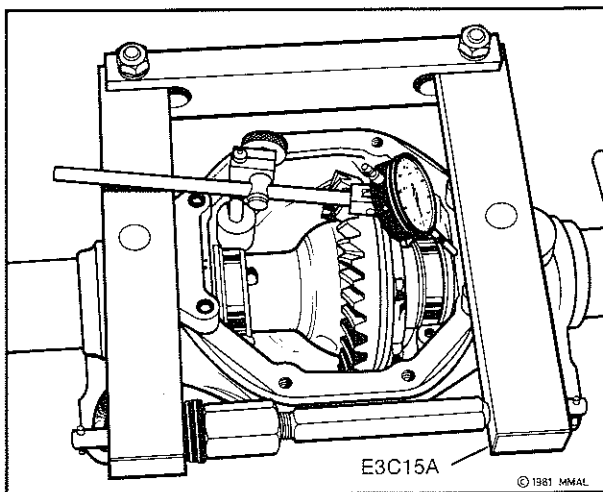

Fig. 21—Spreading carrier
(11) Remove bearing caps and locate Special Carrier Spreader Tool Adaptor Plates on carrier, making sure that the plates fit flat on the carrier flange when the mounting screws are tightened. If any projections from the axle tube weld points interfere with the correct seating of the adaptor plates, dress down with a file to form a flat surface. At this time the spreader tool should be fitted and adjustment screw tightened finger tight only.
(12) Mount dial indicator magnetic base over a side bearing cap stud hole (refer Fig. 21) or screw a suitable pilot stud into the side bearing cap stud hole. Attach a dial indicator and load the indicator slightly against the opposite side of the carrier, refer Fig. 21.